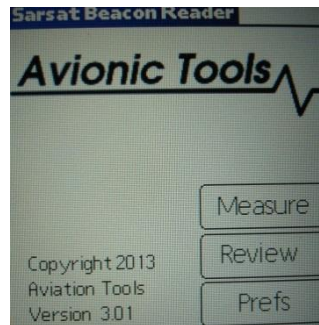
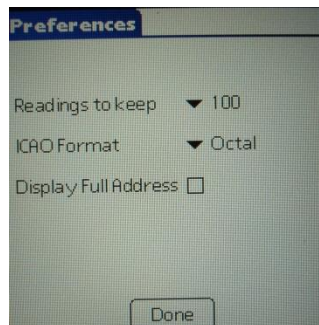

Figure 20: Avionic Tools Screen
Figure 25: Sarcalc Preferences
3. Select "Measure" from "Avionic Tools" screen, as shown in Figure 20.
If "Prefs" is selected from the initial Sarcalc screen (Figure 20), the following items may be selected (Figure 25):